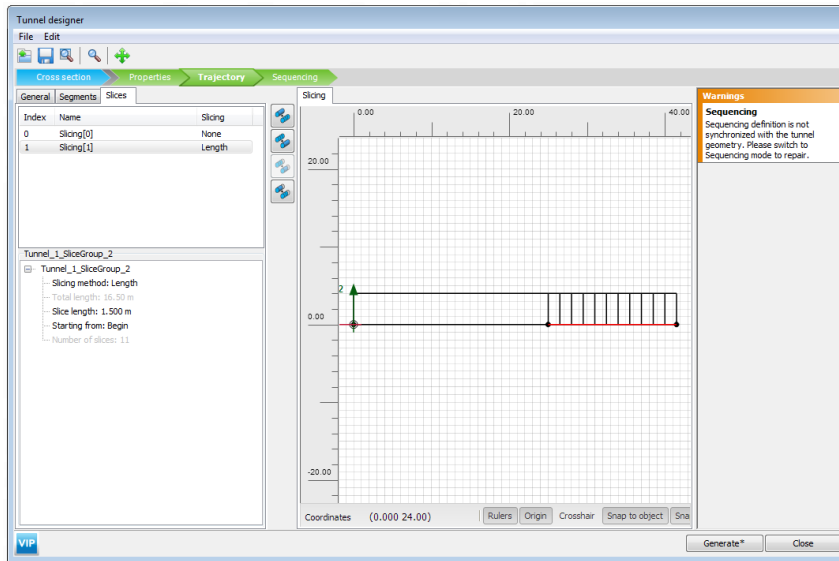

Figure 5.9 Trajectory tabsheet in the Tunnel designer
- Click on the second created segment. In the properties box, select *Length* as the *Slicing method* and set the *Slice length* as 1.5 (Figure 5.9).